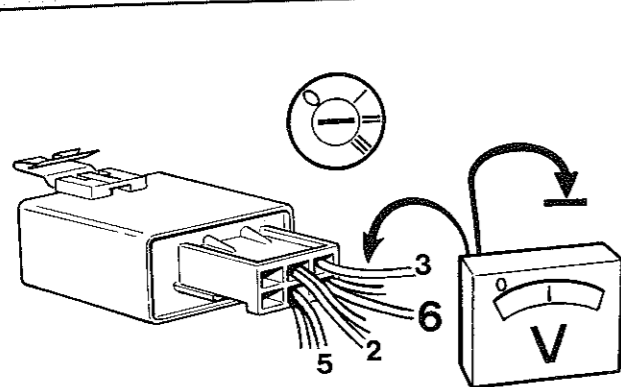

Fig. 9.25 Checking the voltage at the transient surge protector (Sec 32)
- 4 Switch on the ignition. Measure the voltage at terminals 2, 3 and 4 of the transient surge protector (Fig. 9.25). It should be 12V. No voltage at terminal 3 may be due to a faulty surge protector; otherwise, look for wiring damage.